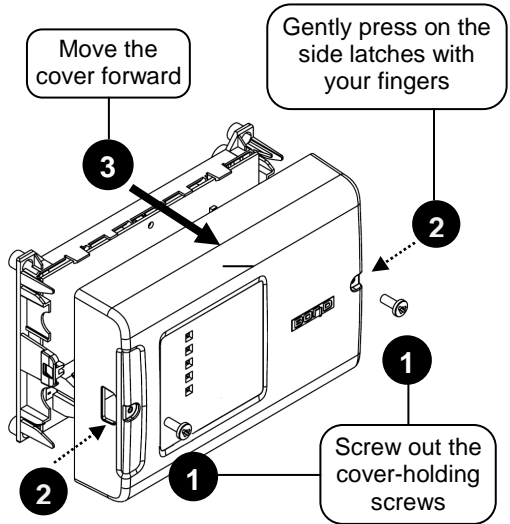

Figure 2. Removing the Controller Cover
3.1.5 Remove the Controller cover as shown in Figure 2.
3.1.9 Remove the Controller cover as shown in Figure 2.
3.2.2 Remove the Controller cover as shown in Figure 2.